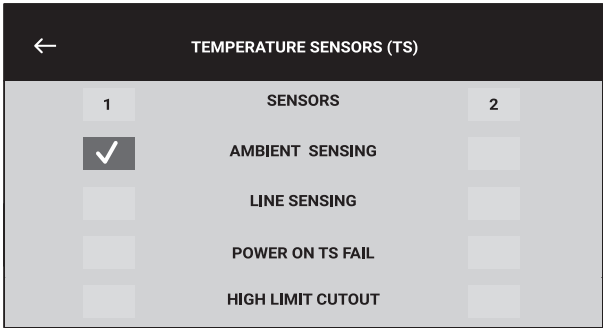

Figure 3.5 Sensor setup
Sensor setup allows user full flexibility in configuring the temperature sensors as shown in Figure 3.5 below:
- Purpose** Sensor setup allows user full flexibility in configuring the temperature sensors as shown in figure 3.5 above: